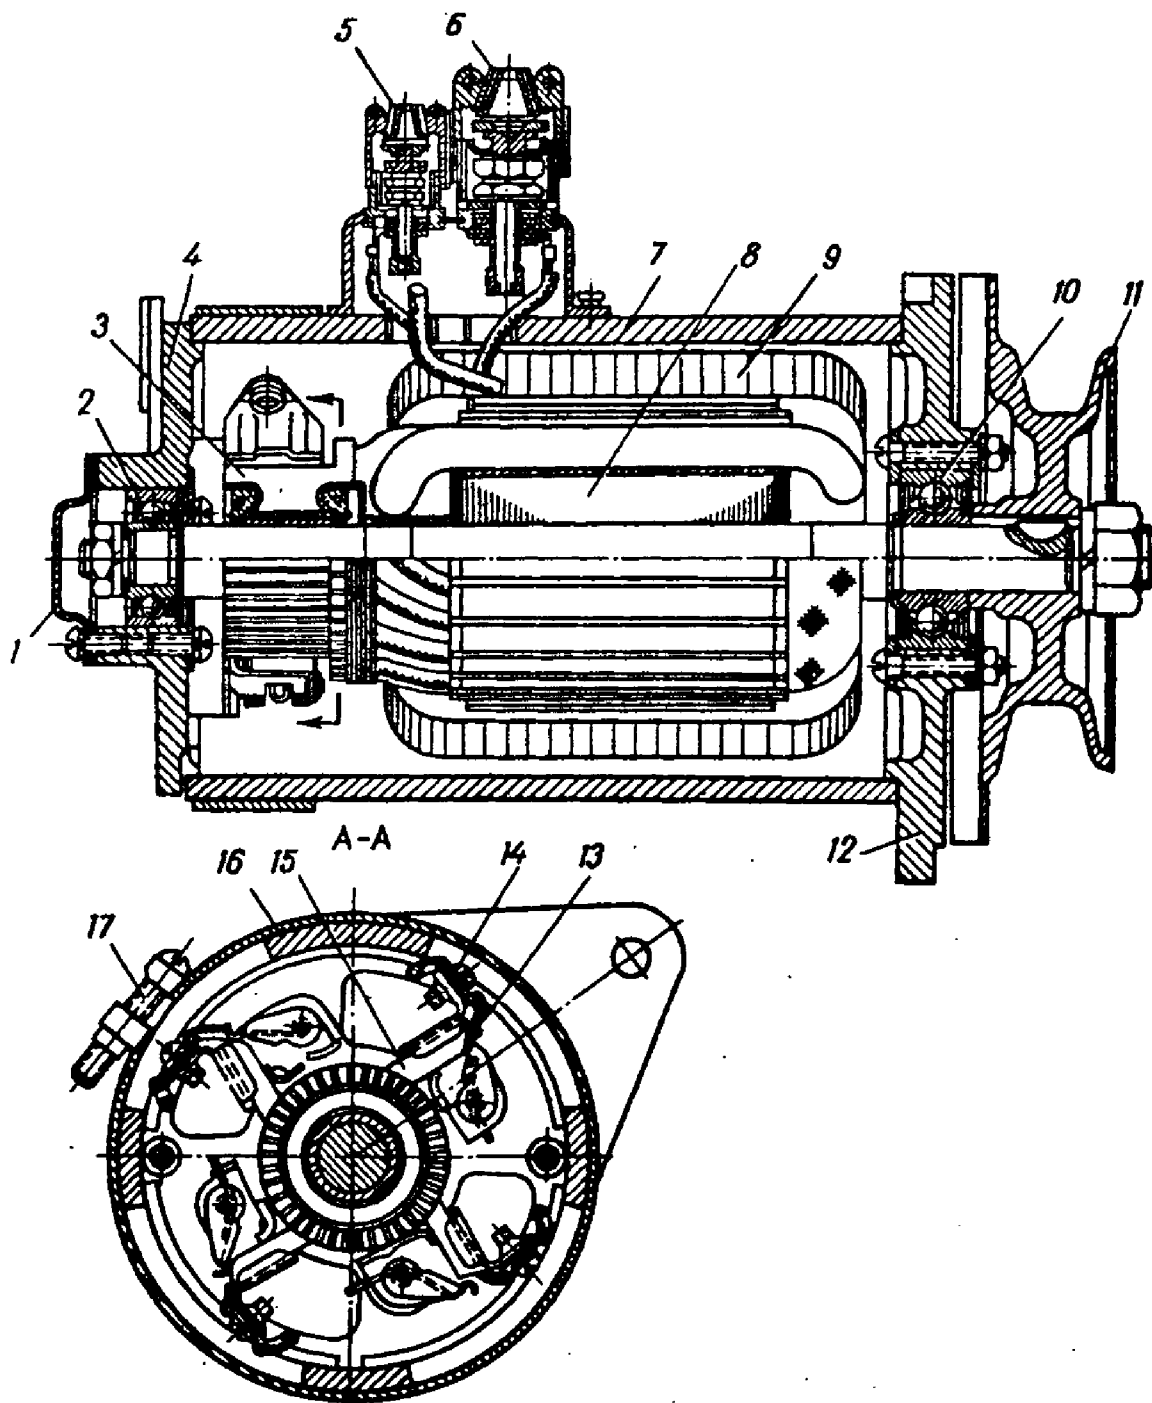

FIG.49. Г51 GENERATOR
3. Remove screw 17 (Fig.49) securing protective band 16 of the generator and remove the band.